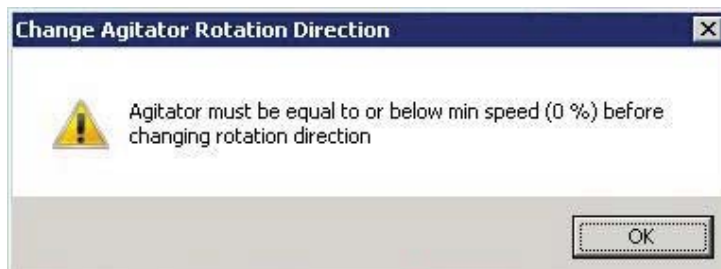

Figure 4.26. Error message appears if speed has not yet reached minimum switchover speed.
3. Click **Forward CCW**, located under “Change Agitator Rotation Direction.” If the agitator speed has not yet reached the set Minimum Switchover Speed, the following error message appears (Figure 4.26).